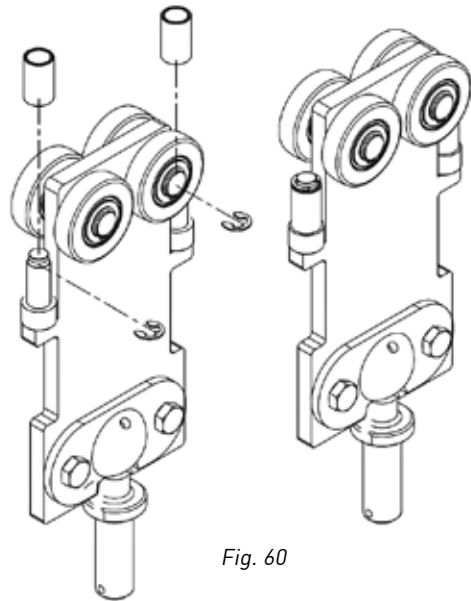

Fig. 60
- Every six months, remove the lock washers DIN 6799 and thoroughly clean the side rollers and the corresponding shafts, using a soft cloth. Lubricate the area with synthetic oil sae 30, reassemble the side rollers and secure with new lock washers DIN 6799. (fig. 60)